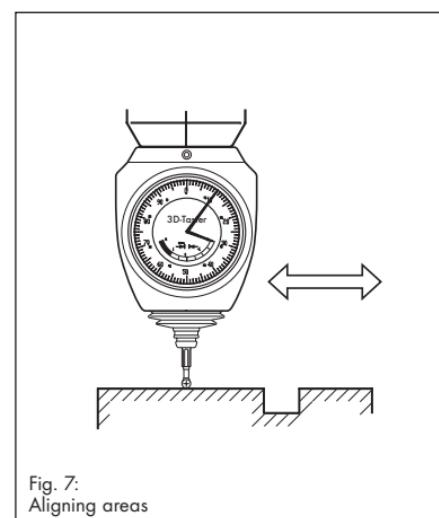

Fig. 7:
### 6 Aligning areas (fig. 7)
- Slide along the surface with the sensing ball (Fig. 7). The deflection at the dial gauge shows how strongly the parallelity of the surface to the machine axis deviates.